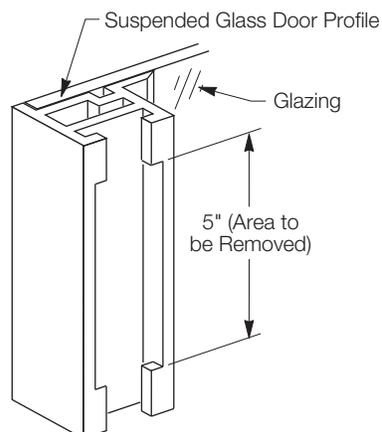

Fig. 4
Step 13 - Centrally locate and mark a 5" long area on backside of door frame, opposite the hinge side. (See Fig. 4) NOTE: A single Lock Assembly can be used for display cabinets whose hinge side is less than 52". Units greater than 52" may require two locks positioned at 1/3rd increments across cabinet, requiring two 5" areas.
Step 14 - Machine-mill to remove both door profile "returns" within the 5" area. (See Fig. 4) NOTE: This process should be performed by qualified person(s).